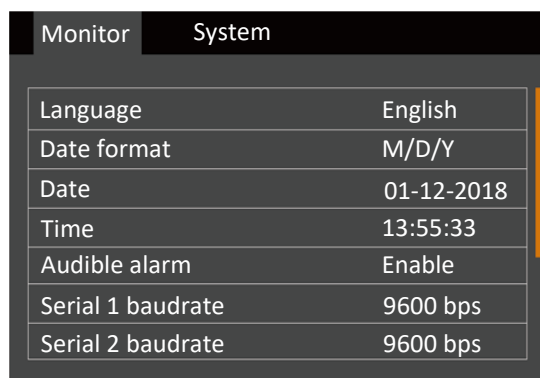

Figure 5-17 Monitor Interface
2. Press the key to move the cursor to 'Monitor', see Figure 5-17.